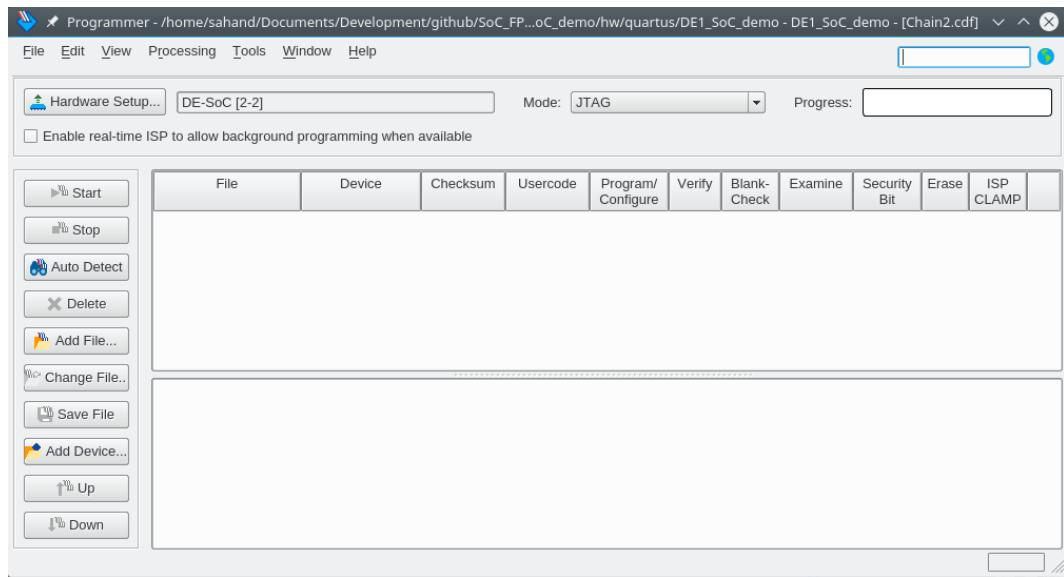
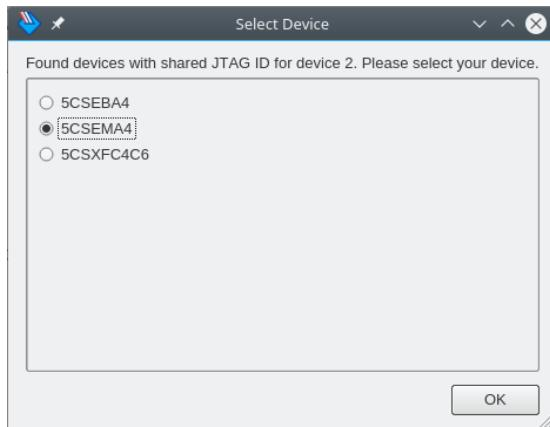

Figure 9-19. Quartus Prime Programmer
Figure 9-20. FPGA Selection
42. Choose the “Auto Detect” button on the left of Figure 9-19, then choose “5CSEMA4”, as shown in Figure 9-20.